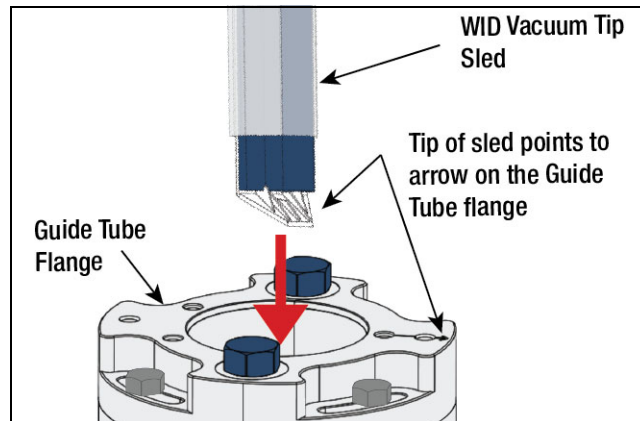

Figure 8. Installing WID
2. At the Guide Tube flange uncoil the WID tubing assembly while pushing the tube's metal rectangular end down into the Guide Tube flange (see Figure 8). Continue uncoiling/pushing the tubing assembly down until the WID flange seats against the Guide Tube flange. Since the Guide Tube is locked in the desired direction, the WID tubing's rectangular end will follow the desired path to the middle of the tank's low end.